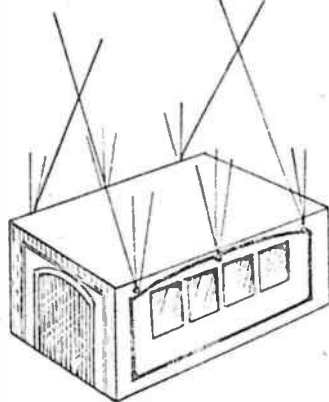

Fig. 6
good impression of the make-up and the finished appearance of the car or cabin is given in Fig. 6. Two pieces as (N) and (O) are required, measuring 2 ins. long by $\frac{1}{2}$ in. wide, and two pieces $1\frac{1}{2}$ ins. by $\frac{1}{2}$ in. for the ends (P). All these are carefully marked, cut square and cleaned up and glued together in the formation shown. When the glue has hardened, all surfaces are rubbed clean on a sheet of glasspaper, and painted up appropriately. An idea of this finish can be gained from the sketch.